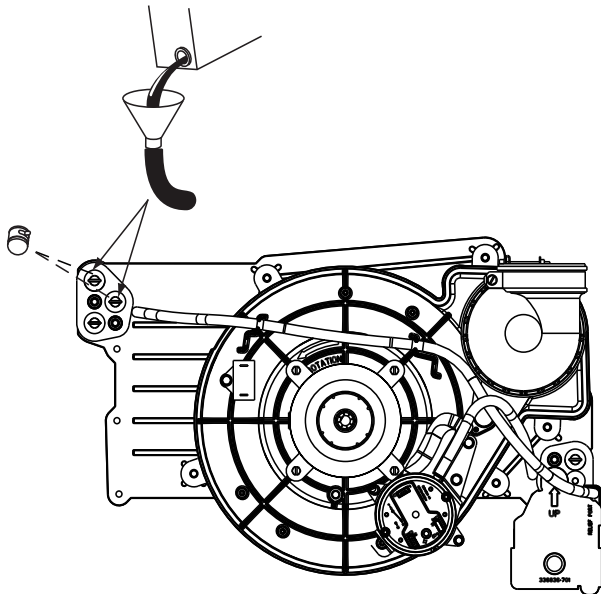

Fig. 63 – Priming Condensate Trap
1. Remove upper and middle collector box drain plugs opposite of the condensate trap (Fig. 63).